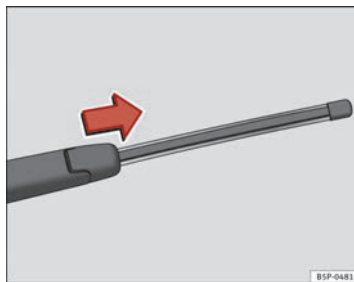

Fig. 169 Removing rear window wiper blade
- Lift the wiper arm away from the glass ⇒ fig. 169
- Slide the blade adapter in the direction of the arrow and remove the blade ⇒ fig. 169.